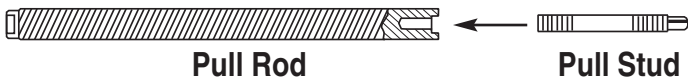

Figure 2
1. Thread the pull stud into the pull rod end until firmly seated. (Figure 2)